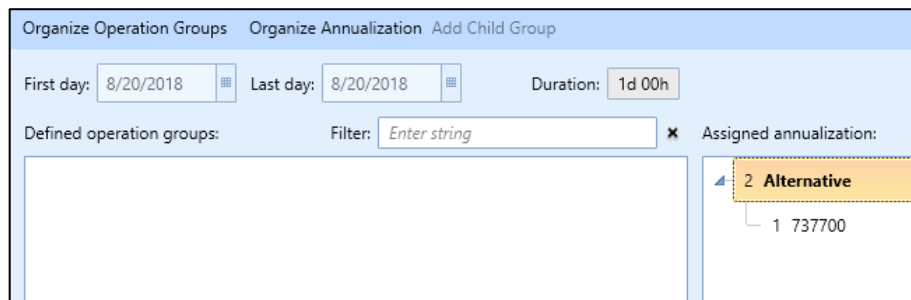

Figure 32. Create Annualization Wizard – Build Annualization
6. Click on the “1” next to the word “Alternative” to edit. Enter number “2” (Figure 32).